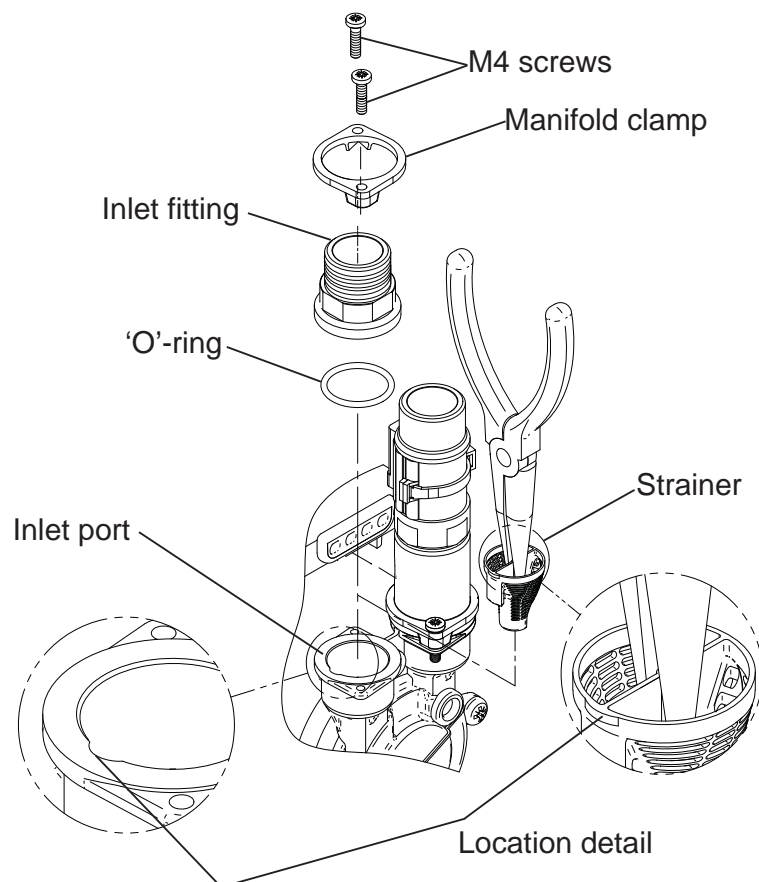

Fig. 14
The strainer is located in the inlet assembly of the pump casing (see Fig. 14) and is removed as follows:-
- Remove M4 screws (2 off) from inlet assembly, lift brass inlet fitting (with 'O'-ring) and clamp away from pump casing (Fig. 14).
- Remove strainer with long nose pliers noting location lug position upon removal (Fig. 14) and clean thoroughly.
- Refit strainer taking care to position lug in body inlet port location slot (Fig. 14) and re-assemble pipework. Tighten M4 clamp screws to 1.5 Nm torque.